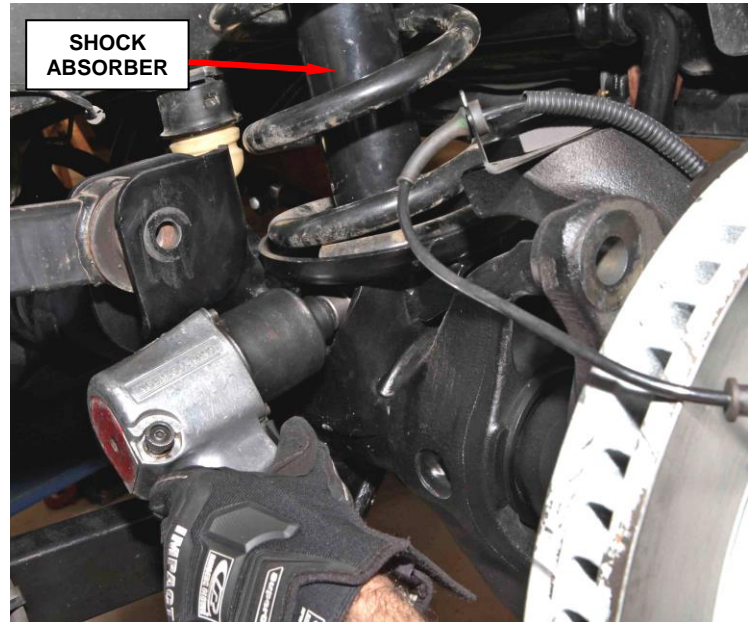

Figure 30 – Lower Shock Absorber Bolt
16. Remove and save the lower shock absorber bolts (Figure 30).